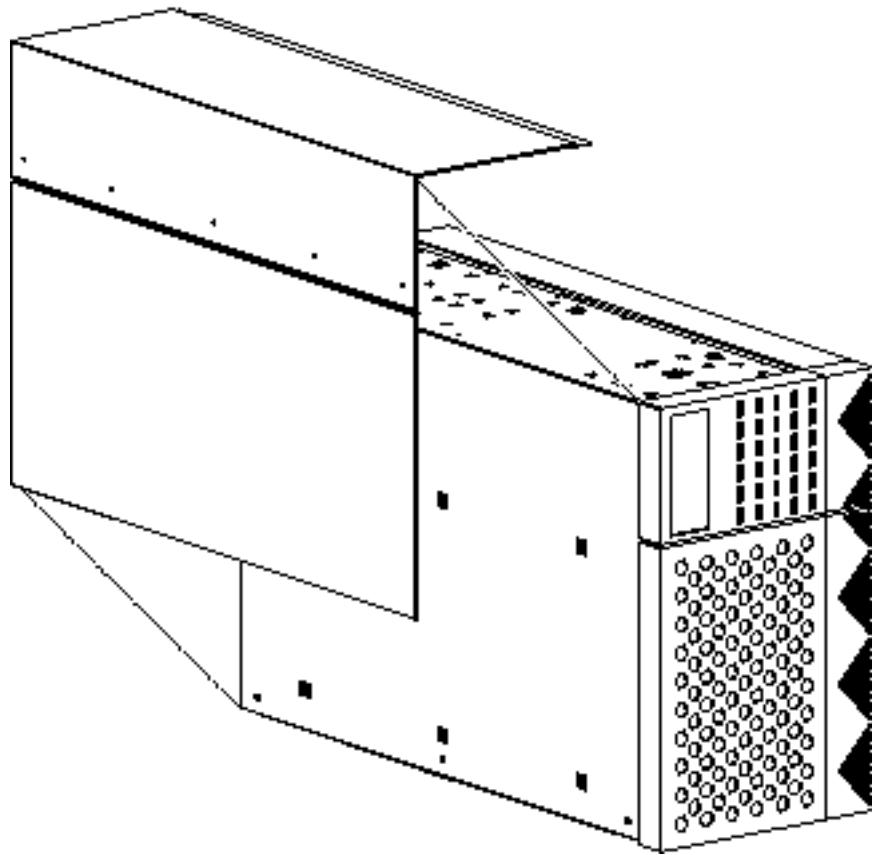

Figure 2-4 Removing the Left Outer Panel
2. **Slide the left outer panel toward the rear of the Netra 150 server until it stops, then tilt the panel out until it is clear of the chassis (Figure 2-4).**